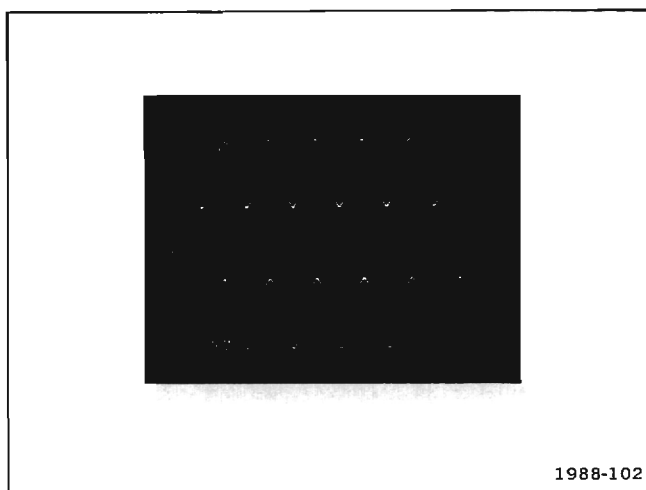

Figure 4-6. Typical waveforms on C1216 and C1217 with the line voltage set to about 20 volts.
5. Check for an ac waveform on the test oscilloscope (see Fig. 4-6). Note the amount of dc the waveform is offset. Move the probe tip to the other capacitor screw. Check for an ac waveform which is both offset an equal amount of dc, and is opposite in polarity, from the previous waveform. (This checks the condition of the line-storage capacitors.)